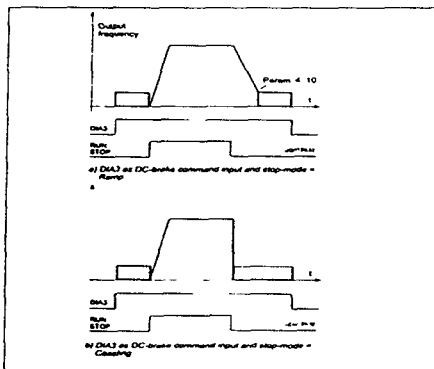

Figure 5.5-4 DIA3 as DC-brake command input a) Stop-mode = Ramp b) Stop-mode = Coasting
- 9 DC-braking command, contact closed = In Stop mode, the DC-braking operates until the contact is opened, see figure 5.5-4